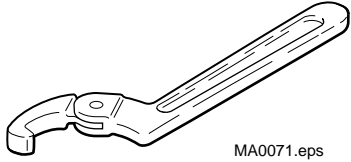

Figure 20. Claw Type Spanner Wrench
2. Use a claw type spanner wrench to remove the retainer. See figure 20.